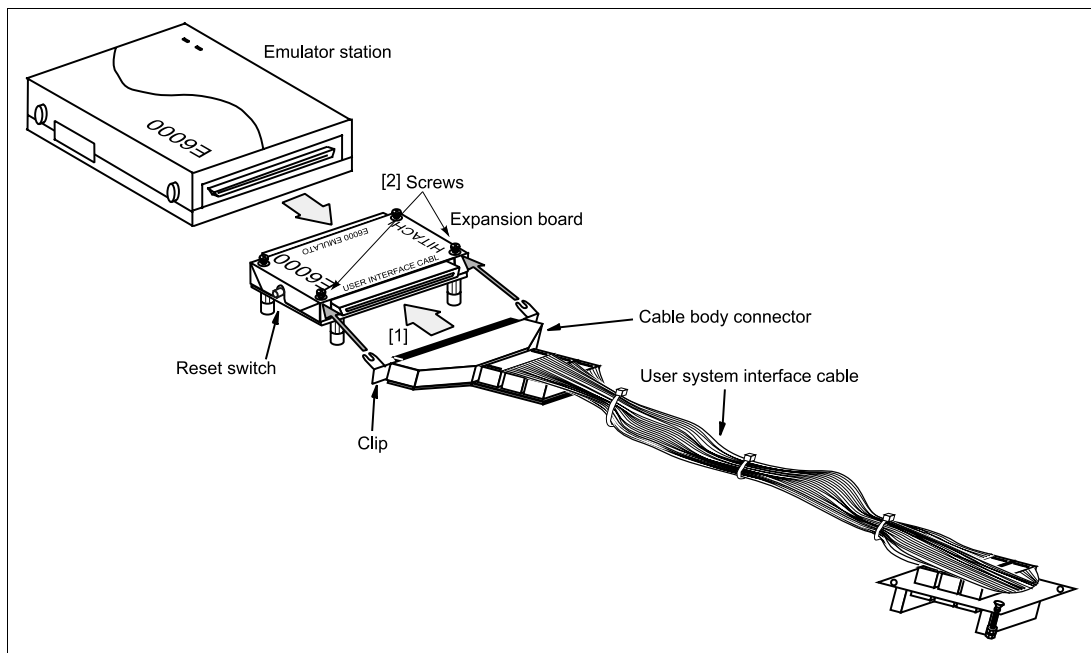

Figure 2 Connecting User System Interface Cable to Expansion Board
2. [1] To connect the expansion board labeled USER INTERFACE CABLE and the user system interface cable body, first loosen the two screws ([2] in figure 2) on the expansion board, and place the cable body clips under them.
[2] Tighten the two screws ([2] in figure 2) on the expansion board.